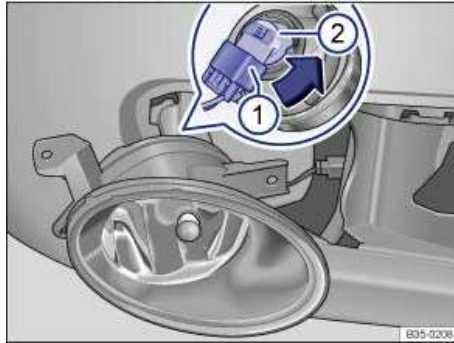

Fig. 200 In the removed light: Replacing the bulb.
| 7. | Release the connector ⇒ fig. 200 (1) and disconnect it. |